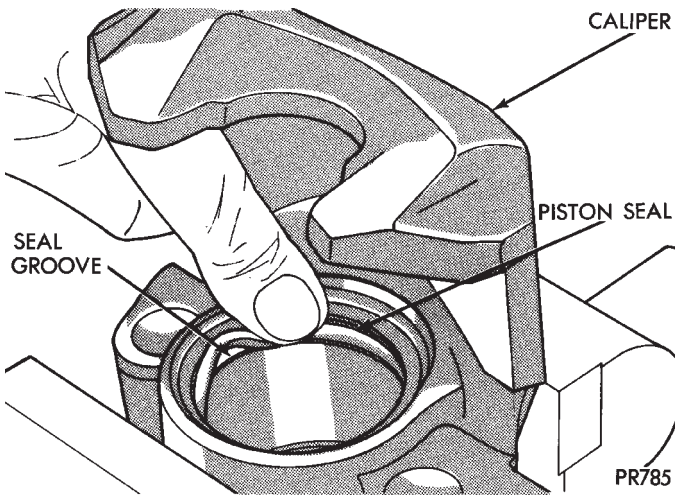

Fig. 185 Installing New Piston Seal
(1) Dip the new piston seal in clean brake fluid and install it in the groove of the caliper bore. The seal should be started at one area of the groove and gently worked around and into the groove (Fig. 185) using only your clean fingers to seat it.